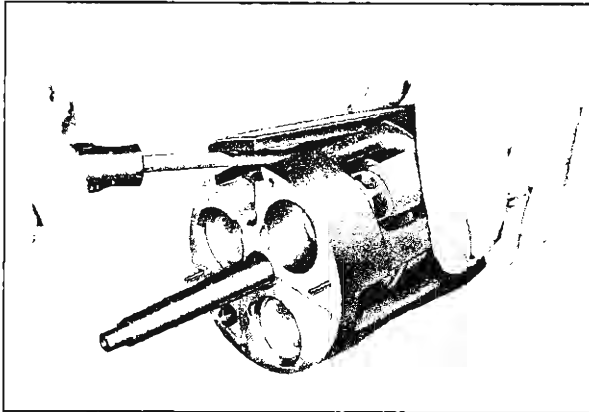

Fig. 30—Removing Suction Crossover Cover
6. Remove the suction crossover cover (fig. 30) and discard the old gasket.